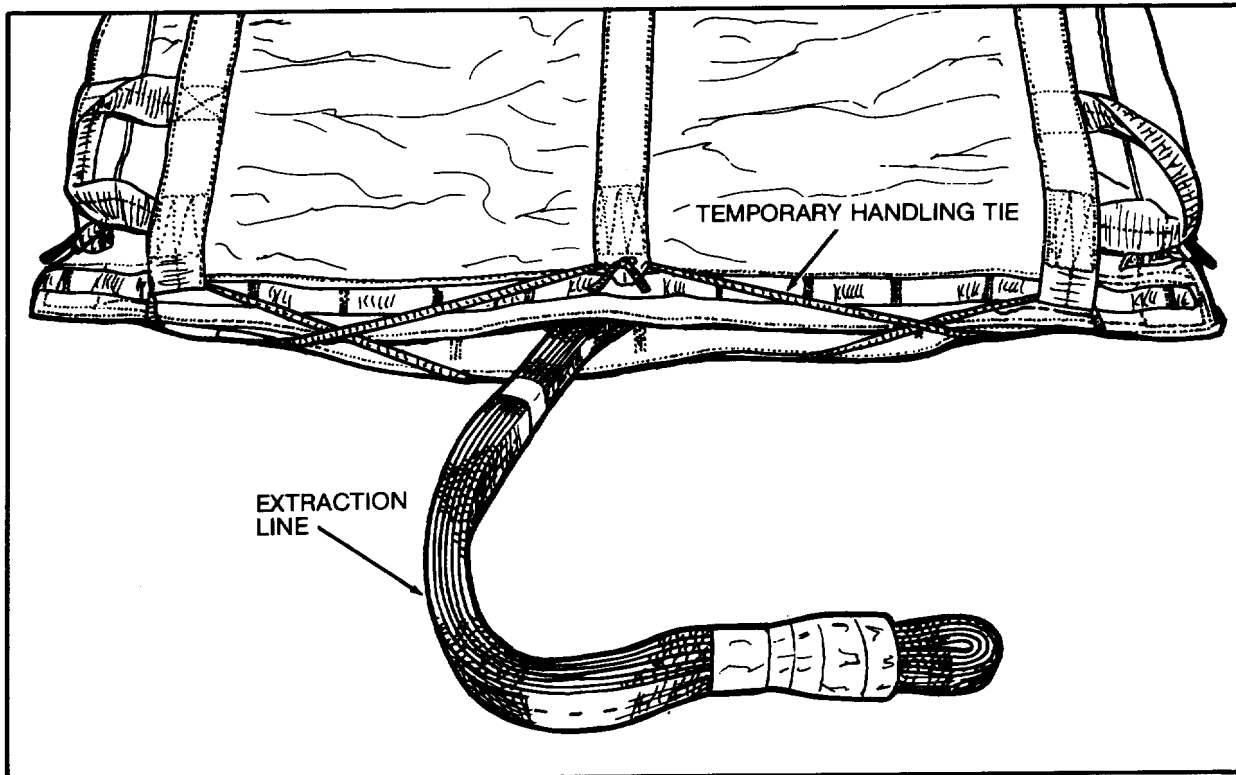

Figure 7. Handling Tie Installed.
- f. Beginning at upper top center bridle attaching loops, pass one of remaining 95-inch closing tie (temporary handling tie) through top center, bottom right, top right, bottom center, top left, bottom left and back through top center loops. Remove slack from tie and secure ends with surgeon's knot and locking knot (figure 7).